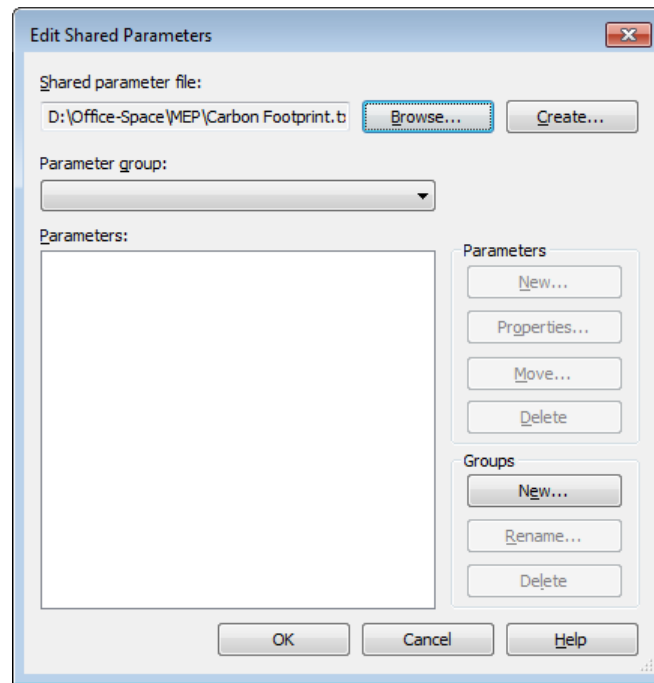

Figure 2-31 The *Edit Shared Parameters* dialog box
1. Choose the **Shared Parameters** tool from the **Settings** panel of the **Manage** tab; the **Edit Shared Parameters** dialog box is displayed, as shown in Figure 2-31.